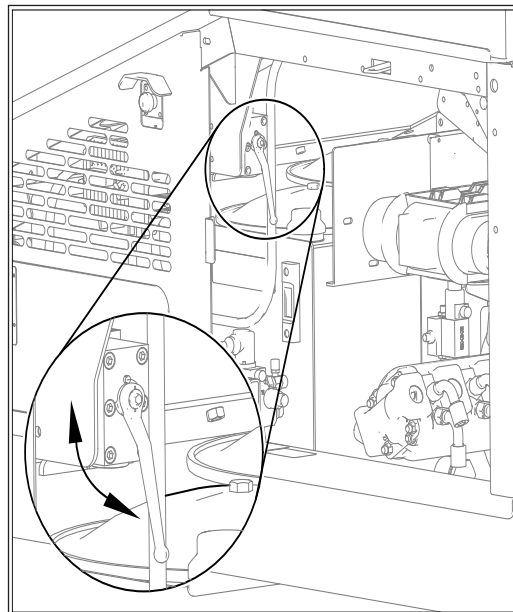

Figure 4.16 - Fixed Speed Track Control
1. For optional fixed speed machines move the track speed control lever to the down (slow) position when loading machine to transport trailer, see Figure 4.16.